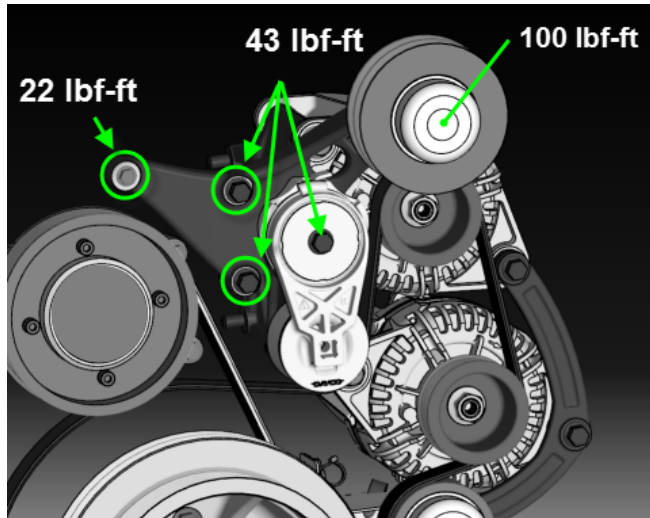

FIGURE 12
Part 500449 added in the material list and in step 9. Torque added in figure 12.
19. Reinstall the A/C compressor idler pulley bracket assembly (figure 12). Apply Loctite 243 on threads. Reinstall the A/C compressor belts.